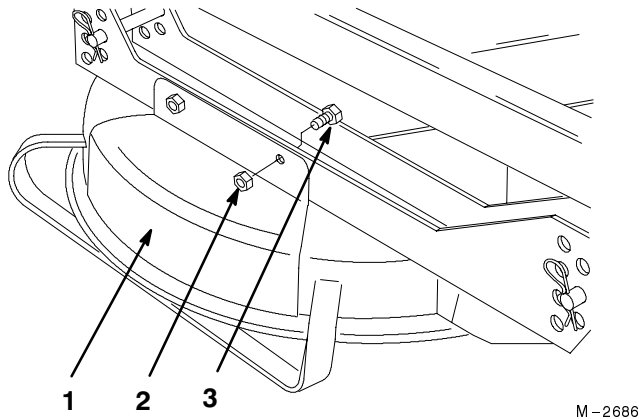

Figure 7
1. Remove two screws and lock nuts securing discharge cover to deck channel. Remove cover (Fig. 7).